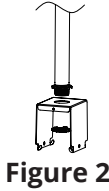

Figure 2
- Step1.** Mount the bracket on 3/4"NPT; **(Figure 2)**